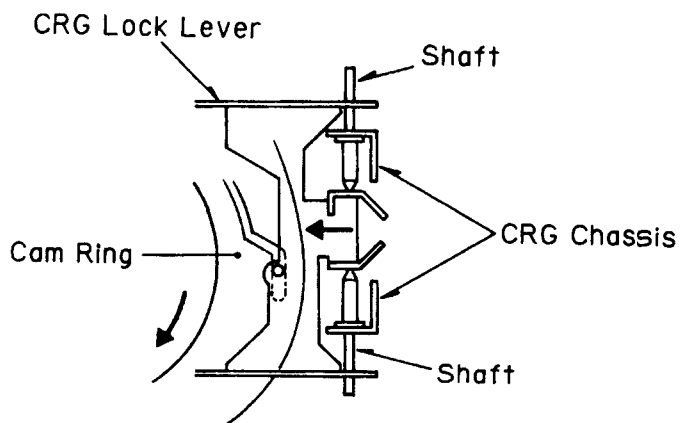

Fig.24
③ The cam ring turns and the CRG lock lever slides. The tip of the lever inserted between the CRG chassis's shafts such that it is clamped by the shafts separates, thus releasing the CRG chassis's lock (front/rear direction).(Fig. 24)